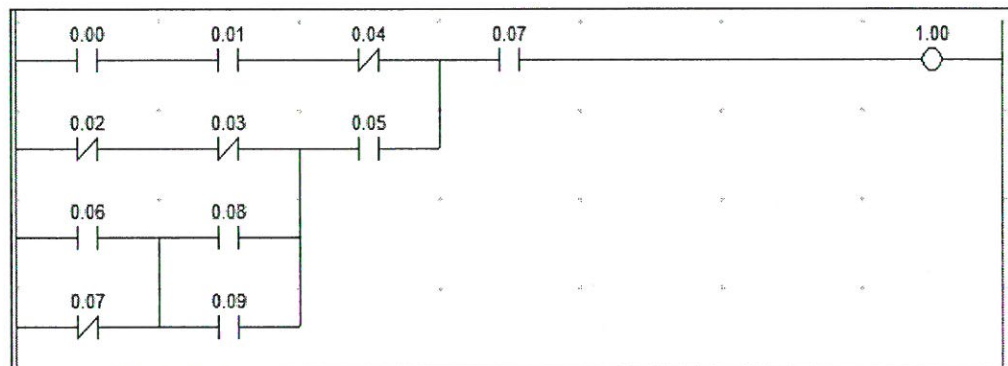

Figure 4(b) / Rajah 4(b)
- b) Based on Figure 4 (b), convert the ladder diagram given to mnemonic code.